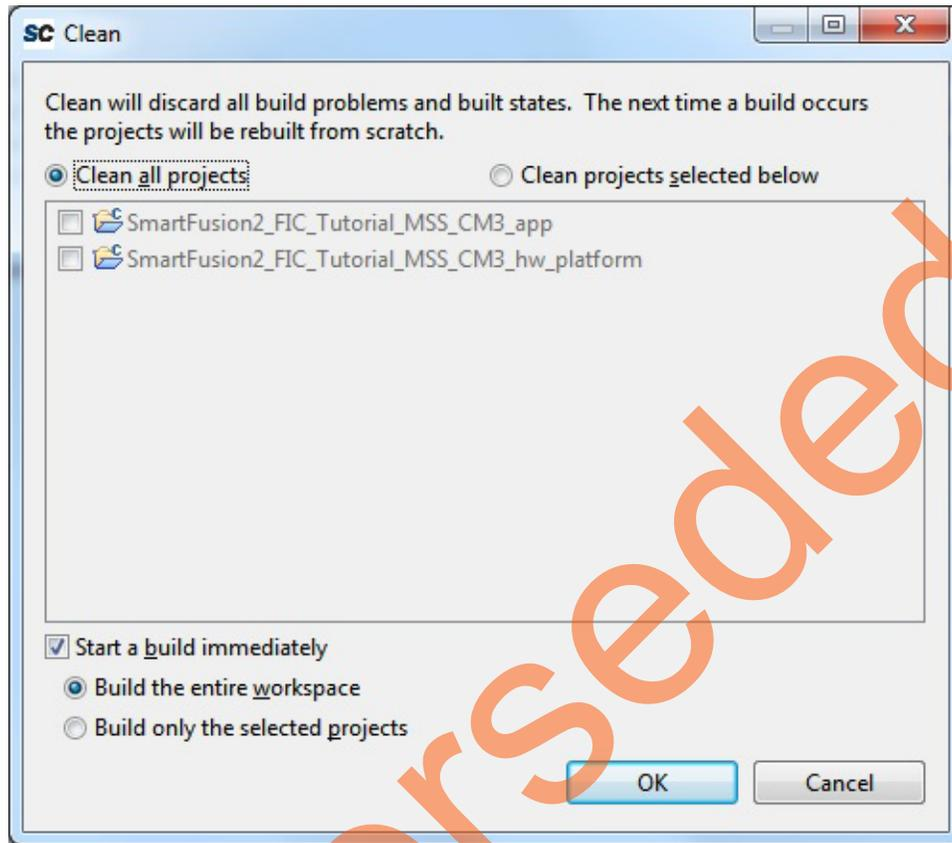

Figure 46 • Clean and Build window
12. Select **Project > Clean** to perform a clean build. Accept the default settings in the **clean** dialog box and click **OK** as shown in Figure 46.